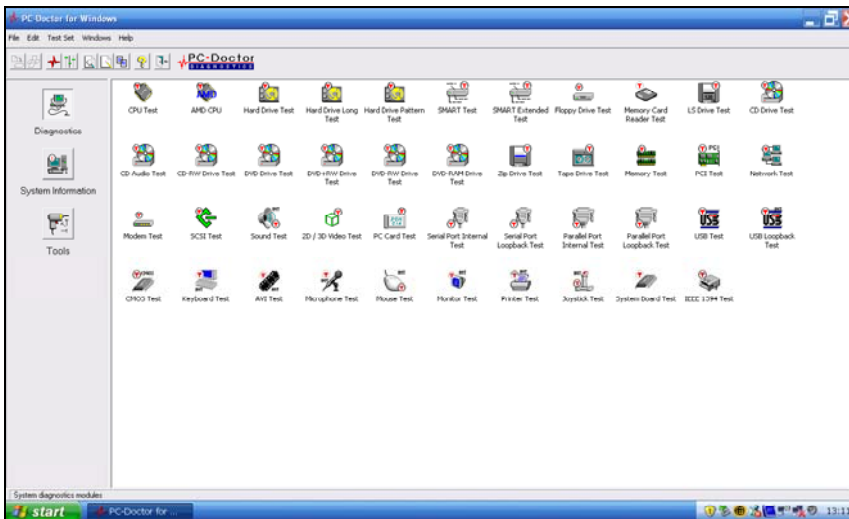

Figure 10.2-2
5. PC Doctor will now run. Select the '**diagnostics**' option. You are now ready to run one of the tests by selecting one of the icons. See Figure 10.2-2.